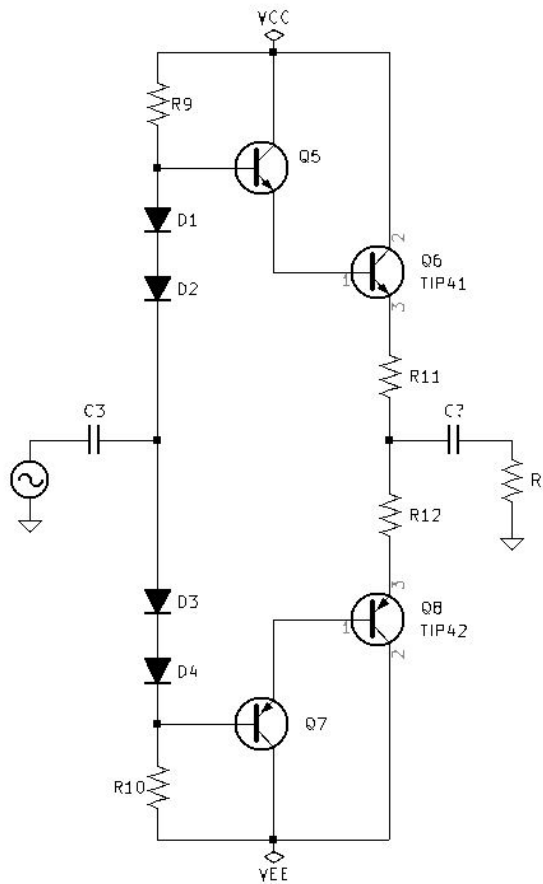

Figure 5.1: Push Pull Amplifier.
1. See Figure 5.1 *Push Pull Amplifier* on page 40.